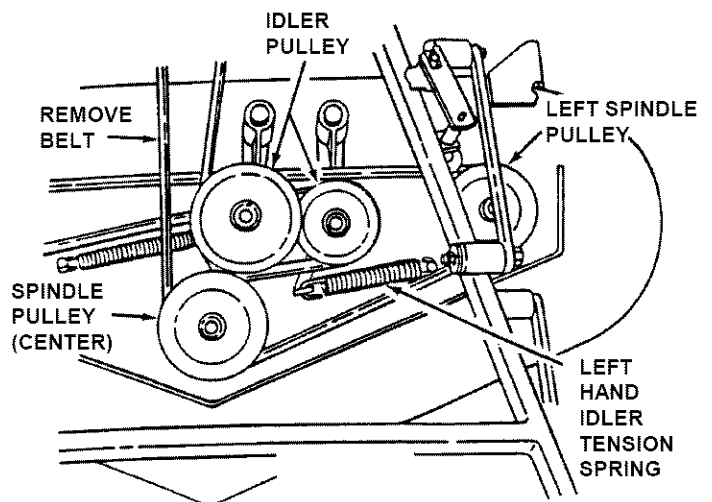

FIGURE 4.8
6. Remove old belt from left hand Spindle Pulley and center Pulley bottom groove. See Figure 4.8.
1. Route new belt for 48" cutting deck, 52" cutting deck, and 61" cutting decks, onto bottom groove of center Spindle Pulley and left hand Spindle Pulley. Refer to Figure 4.8.